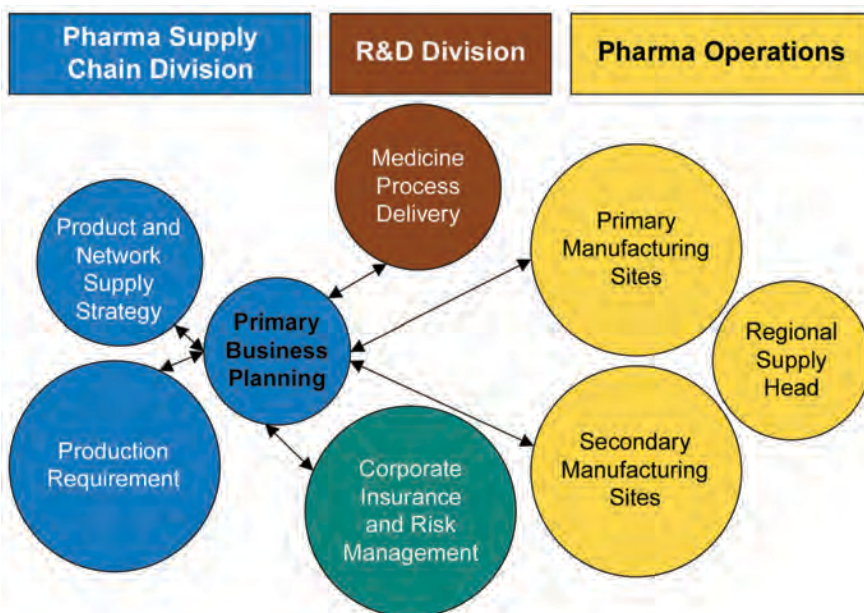
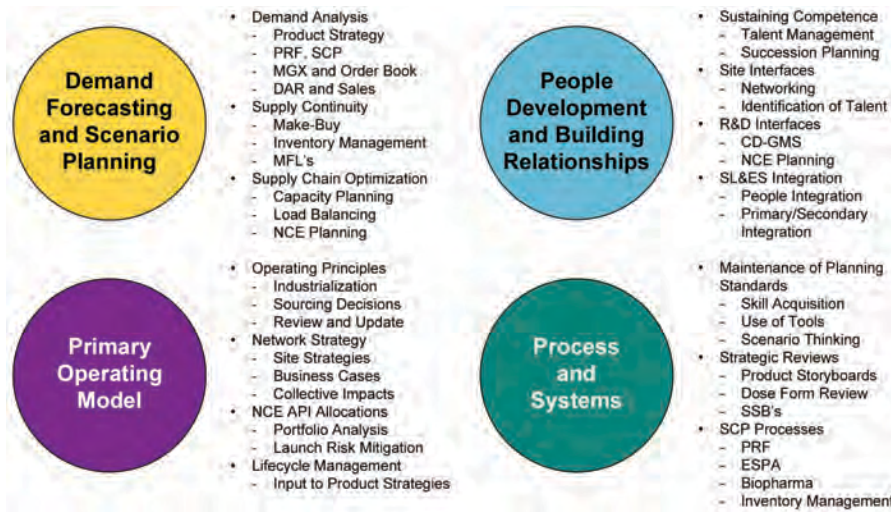

Figure 3. The key roles of PBP and its relationships in the whole structure.
Figure 4. The four main competencies of PBP.
- Organize workshops involving the sites, the Primary Business Planning (PBP) team, and the Procurement and Strategy teams to review the risks for the critical internal sites and third parties; review and agree on what to do to mitigate the risks - *Figure 3 and Figure 4.*